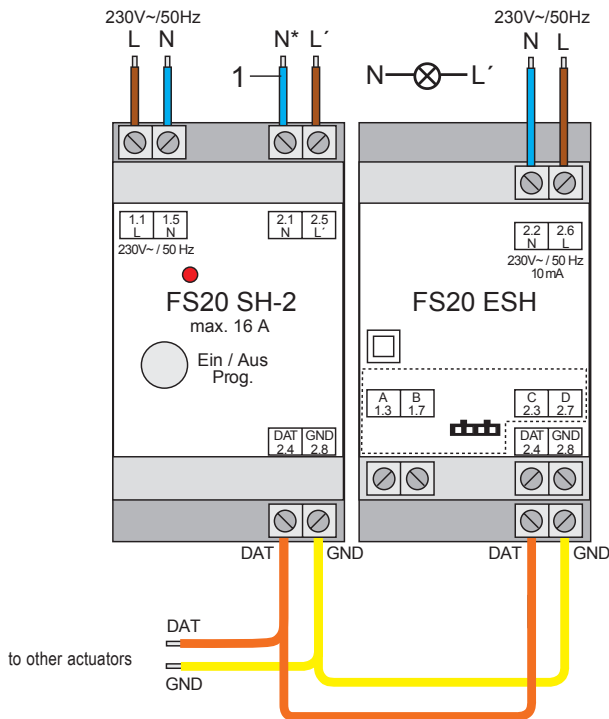

Figure 2
4. Wire the network connector of the switch module (connectors 1.1 and 1.5) with the L and N busbars in the distribution, see figure 2.
5. Wire the load terminal (terminals 2.1 and 2.5) also according to figure 2.
If you plan to use other actuators, extend the bus terminal via another pair of cords on the bus terminal (see figure 2).